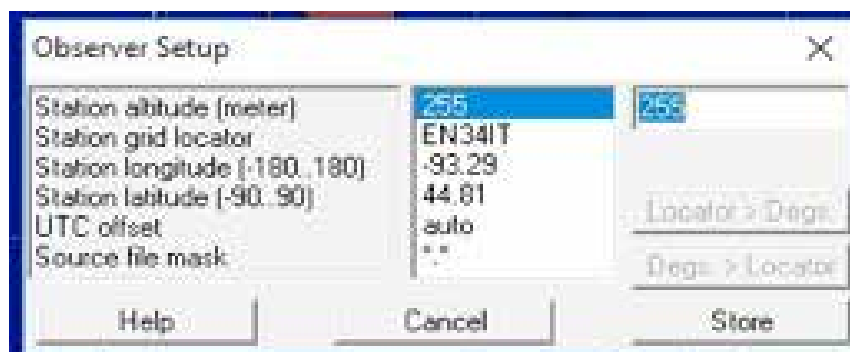

Figure 5.
**E) Set your location:** From the menu bar, click on “Setup>>Observer.” As shown in Figure 5, click on each item in the center column and set the value in the field on the right. After entering your Station Grid Locator, click the [Locator > Degr.] button to insert the latitude and longitude of the center of the grid square into the next two lines. Leave “UTC offset” and “Source file mask” unchanged, then click the [Store] button.